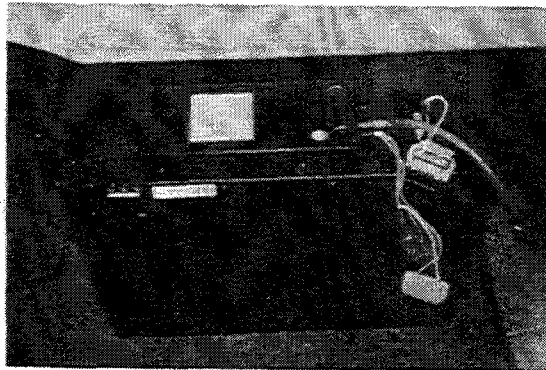

Figure 3
4. Attach interface box to rear of CD changer unit using three M2x5 bolts (Fig. 3).